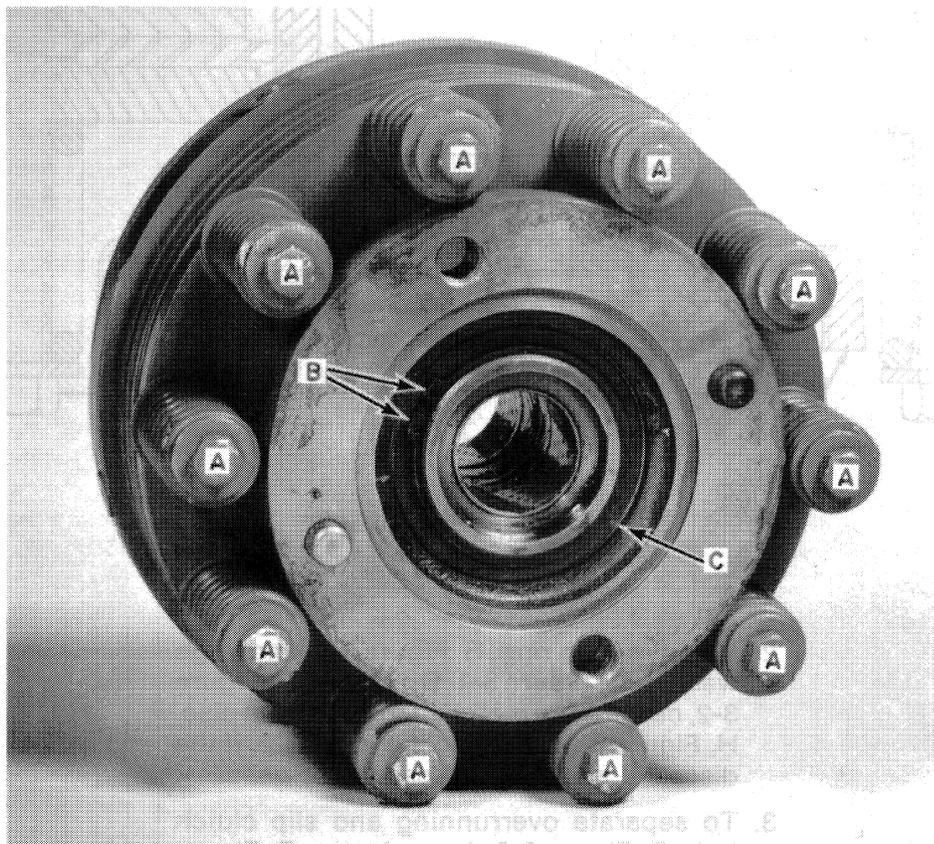

FIGURE 3-1
1. Remove the cap screws, flat washers and springs from the clutch at A, Figure 3-1.
2. Remove snap ring, B, Figure 3-1, and large washer, C, Figure 3-1. Drive hub, D, Figure 3-2, can now be removed from friction disc, H, Figure 3-2, and disc, I, Figure 3-2. If the discs are warped, a press may be used.